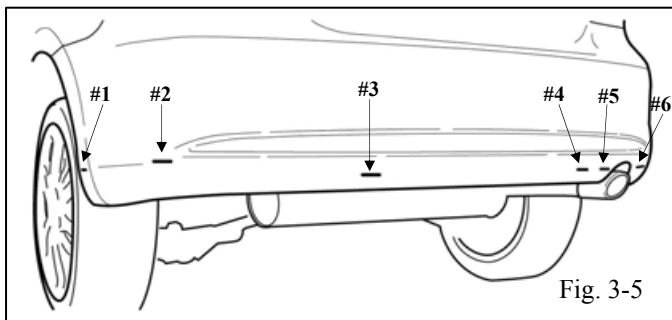

Fig. 3-5
- (g) A 3/16" diameter hole needs to be drilled above slot #3 and slot #4 (Fig. 3-5) shown in (Fig. 3-6).